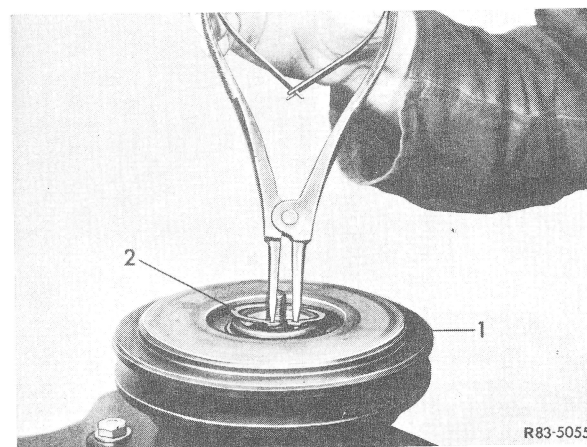

Figure 7
7 Check whether pulley moves freely. Then insert locking ring (2) with the flat side facing downwards (Fig. 7).